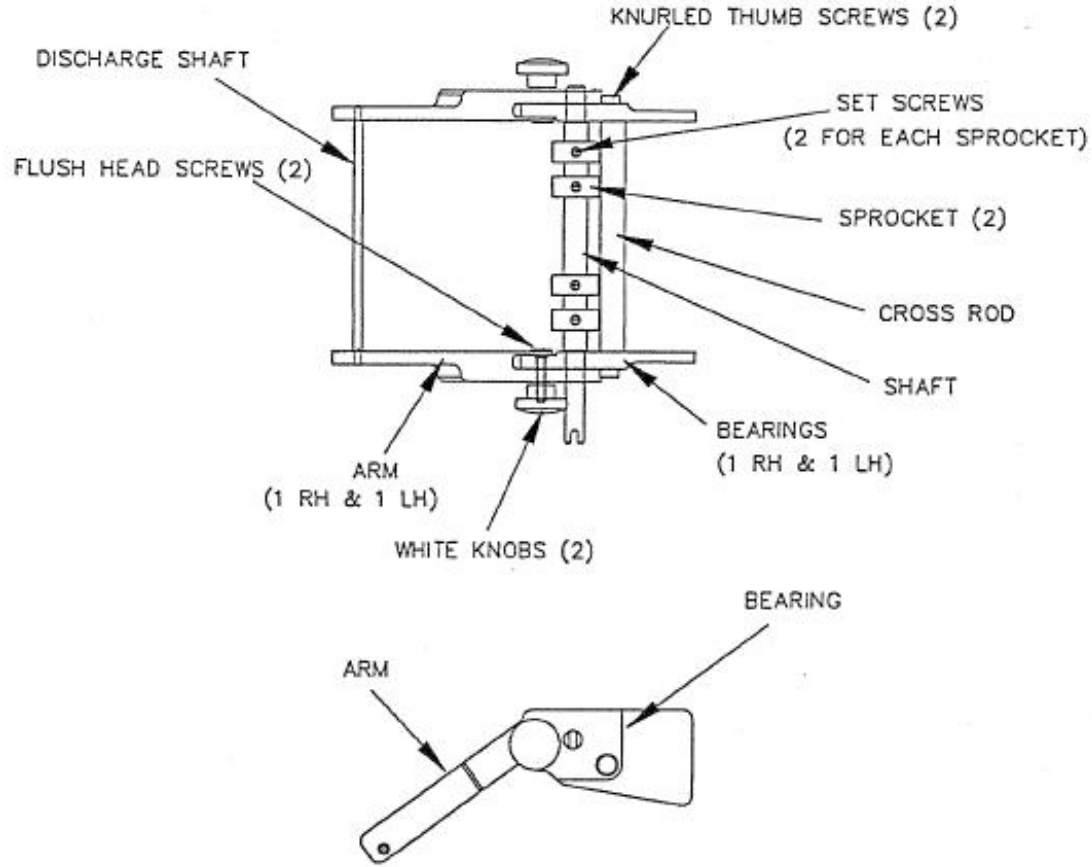

Figure 18
9.1.3 Batter Conveyor Bearings and Drive Shaft Replacement (Figure 18)